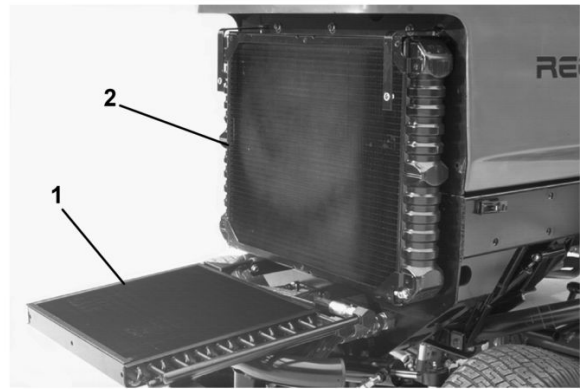

Figure 73
3. Unscrew knobs and pivot oil cooler rearward (Figure 73). Clean both sides of oil cooler and radiator area thoroughly with compressed air. Do not use water. Open hood and blow debris out toward back of machine. Pivot oil cooler back into position and tighten knobs.